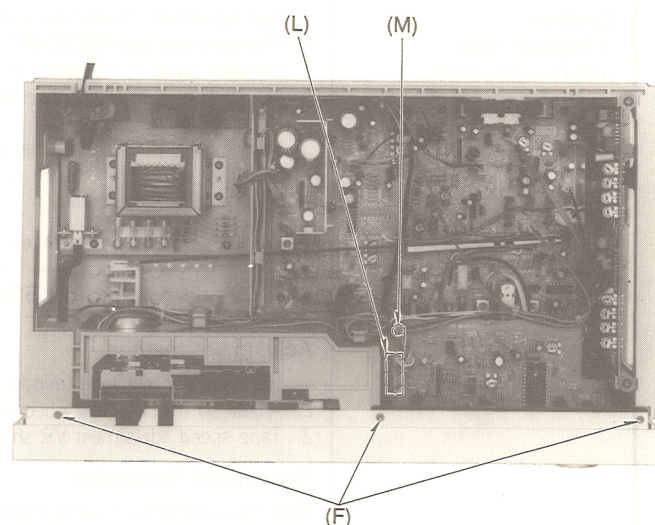
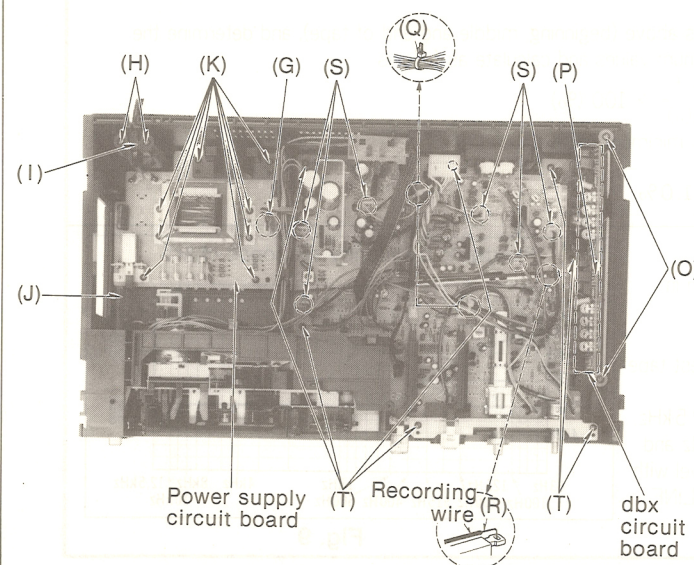
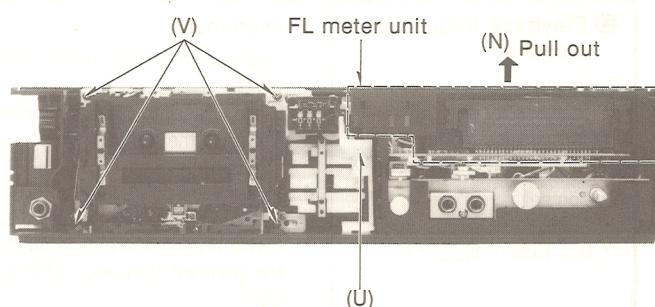
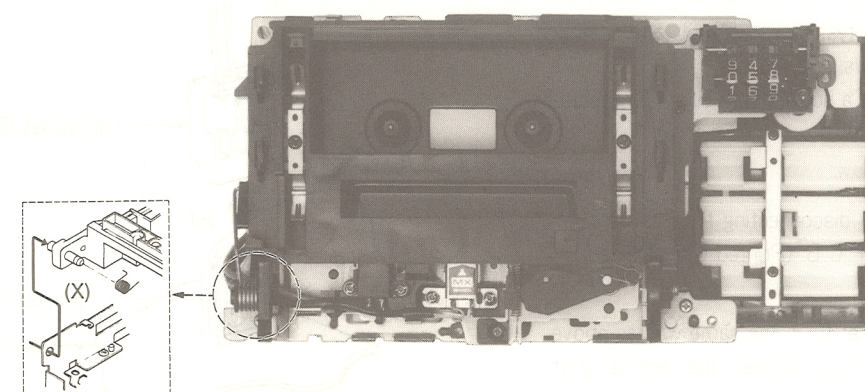

Fig. 4
Fig. 5
Fig. 6
Fig. 7
Equipment: * VTVM * Oscilloscope * Test tape (azimuth) ... QZZCFM	<p>2. Playback the 8kHz signal from the test tape (QZZCFM). Adjust screw (B) in fig. 4 for maximum output L-CH and R-CH levels. When the output levels of L-CH and R-CH are not at maximum at the same time, readjust as follows.</p> <p>3. Turn the screw shown in fig. 4 to find angles A and C (points where peak output levels for left and right channels are obtained). Then, locate the angle B between angles A and C, i.e., a point where L-CH and R-CH output levels come together at maximum. (Refer to figs. 4 and 5.)</p> <p>L-CH/R-CH phase adjustment</p> <p>4. Make connections as shown in fig. 6.</p> <p>5. Playback the 8kHz signal from the test tape (QZZCFM). Adjust screw (B) shown in fig. 3 so that pointers of the two VTVMs swing to maximum and a waveform as illustrated in fig. 6 is obtained on the oscilloscope.</p>  <p>Fig. 4</p>  <p>Fig. 5</p>  <p>Fig. 6</p>  <p>Fig. 7</p>